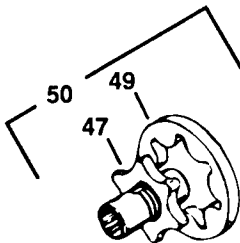

Figure 1
5 Remove gerotor and coupler assembly (50) from backplate (33). Further disassembly of gerotor and coupler assembly is not required. See Figure 1.